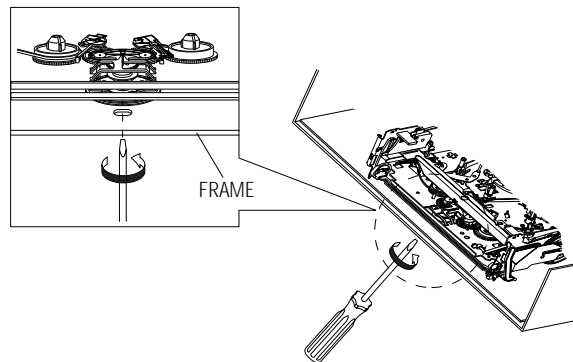

Fig. 2-43
- 2) When Slider S,T are approached in the position of unloading, rotate holder Clutch counterclockwise after inserting screw driver in the hole of frame's bottom in order to wind the unwinded tape. (Refer to Fig.2-43)